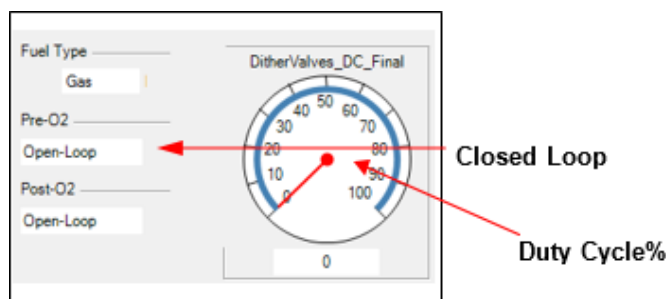

Figure 6-8. FTV Duty Cycle Percentage Displayed on Service Tool
7. Adjust the idle mixture screw on the mixer until a reading of **50-60%** is reached for the FTV Duty Cycle in Closed Loop Idle (Figure 6-8). If engine idle performance is unstable, screw the idle screw in slightly to see if stability is obtained, however duty cycles above 60% should be avoided.